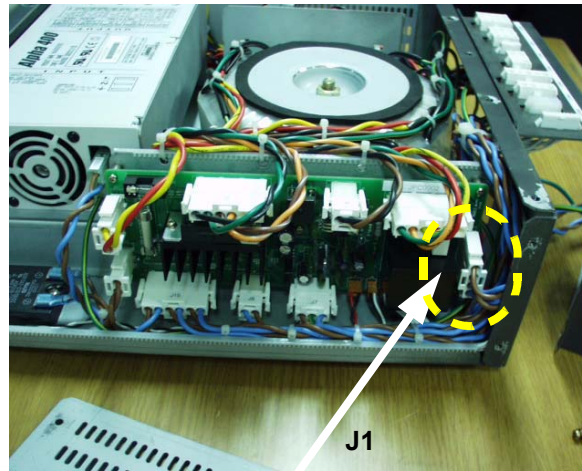

**Figure 8-53 Unscrew 6 screws to remove AC Power Box**
- 1.) Unscrew six screws (1-6) and remove the AC Power Box cover. Refer to Figure 8-53 on page 8-107